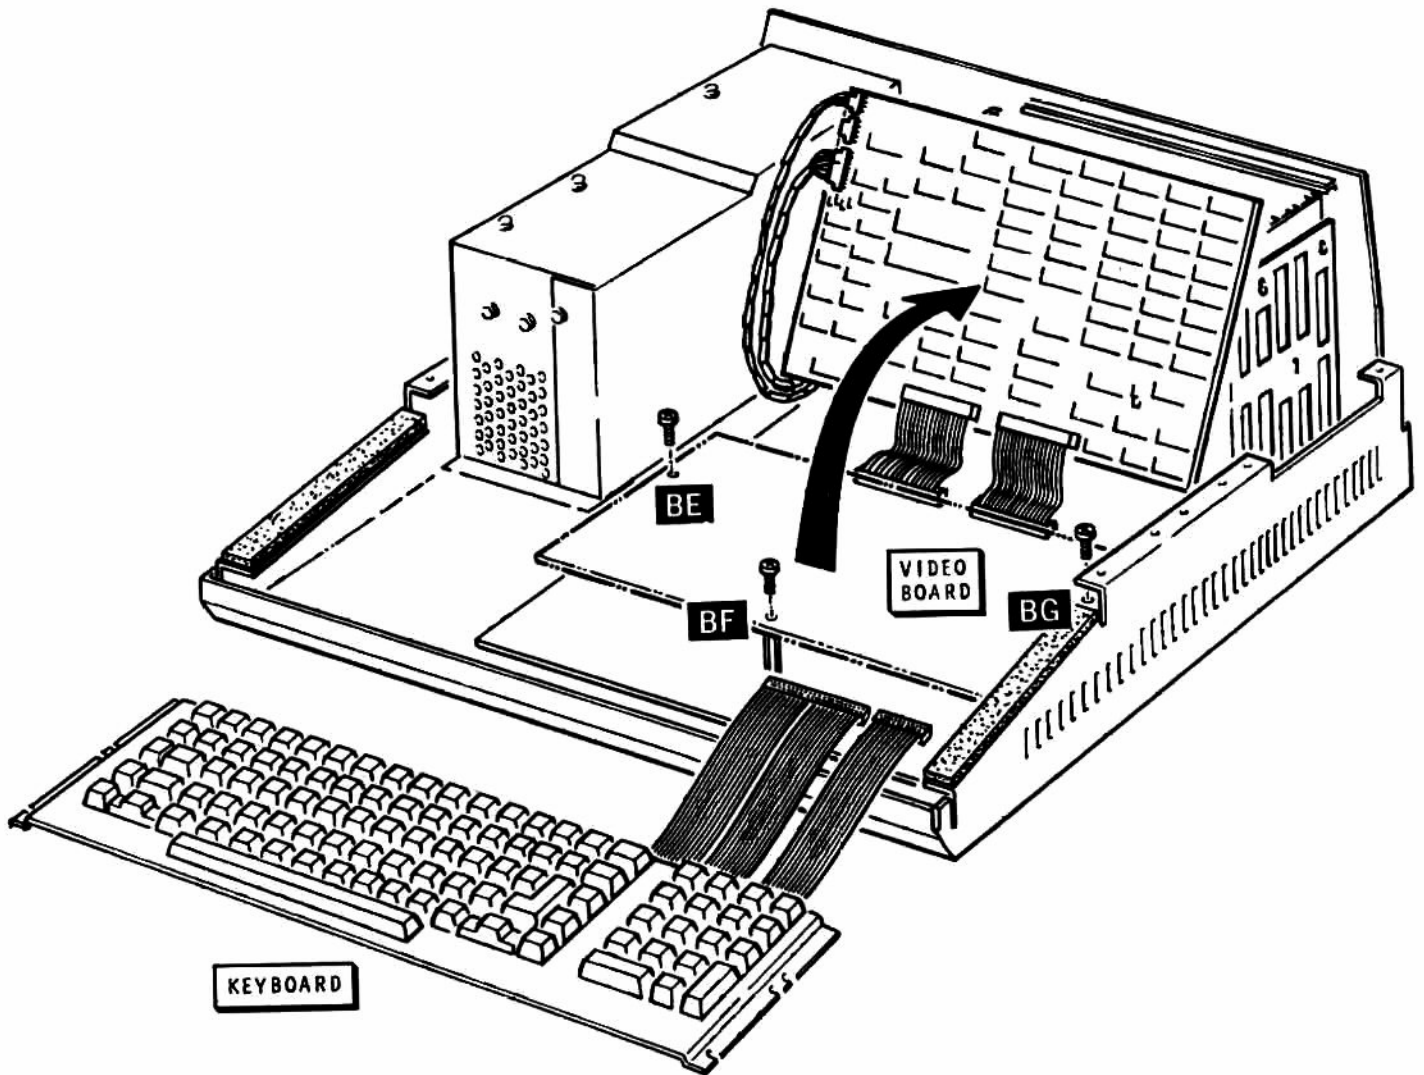

Figure 2.8. Keyboard and Video Board Removal
- Refer to Figure 2.8. Lift the keyboard up and swing it to the front of the computer.